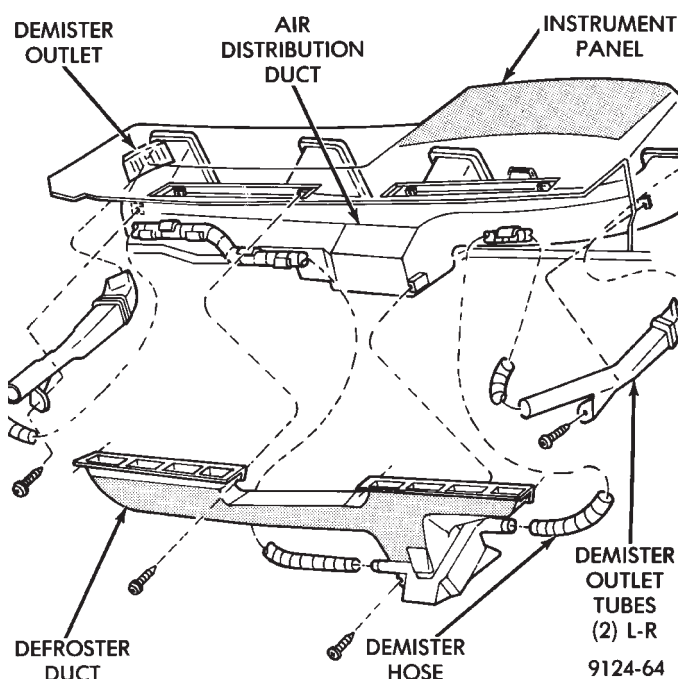

Fig. 14 Defroster Ducts/Demister Ducts and Hoses
(1) Instrument panel assembly must be removed. Refer to Group 8E, Instrument Panel.
(2) After instrument panel has been removed, separate the defroster/demister ducts from the air distribution duct.
(3) Remove the demister tubes and hoses (Fig. 14).